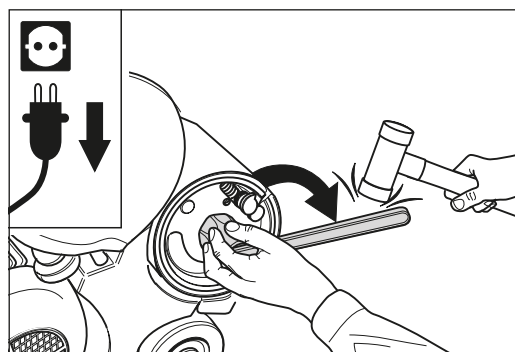

Fig. 75 Release the drum nut **clockwise (left-hand thread)**, if necessary by knocking gently with a soft hammer.
- 6 Open the drum nut by turning the box wrench (see tool kit) **clockwise (left-hand thread)** and unscrew the drum nut (fig. 75).